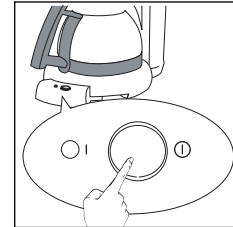

fig. 8
- Press the "ON/OFF" switch (Fig. 8). The ON pilot light next to the switch indicates that the coffee maker is in operation.